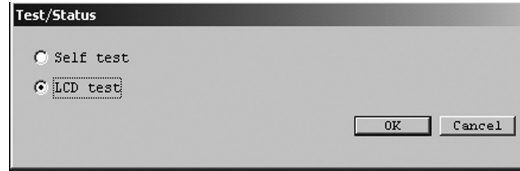

Fig.53
- ① Click on "Diag/Service (T)" at top-level menu of the screen, select "Test/Status", and click on again.
- ② A message box like the one shown in Fig. 53 appears. Click on "LCD test" button.